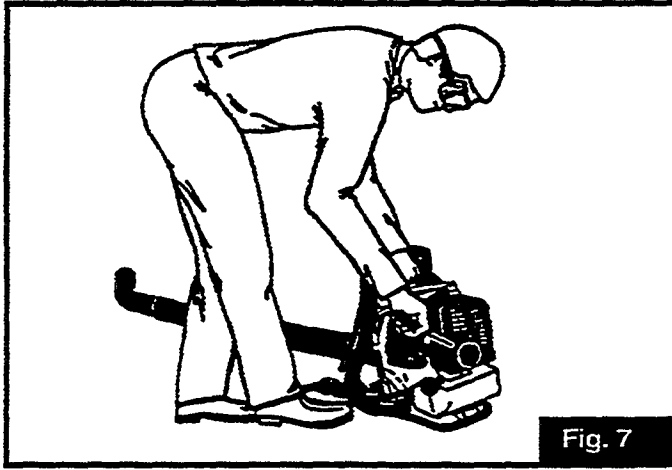

Fig. 7
5. Pull starter until engine tries to run. (No more than 6 pulls.) (Fig 7)